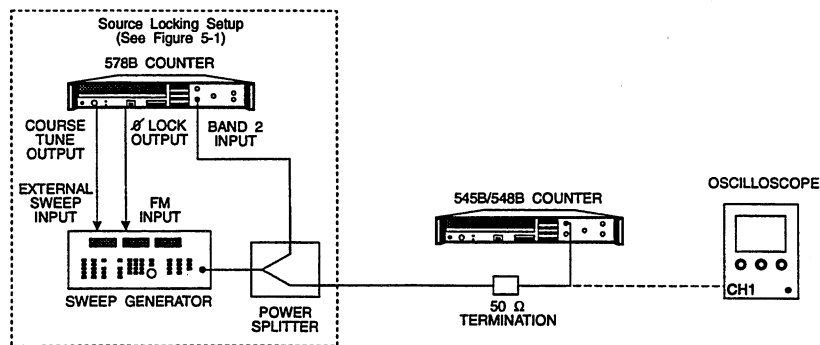

Figure 5-3. Band 1 Range and Sensitivity Test Setup (20 MHz to 100 MHz).
1. Connect equipment as shown in Figure 5-3.